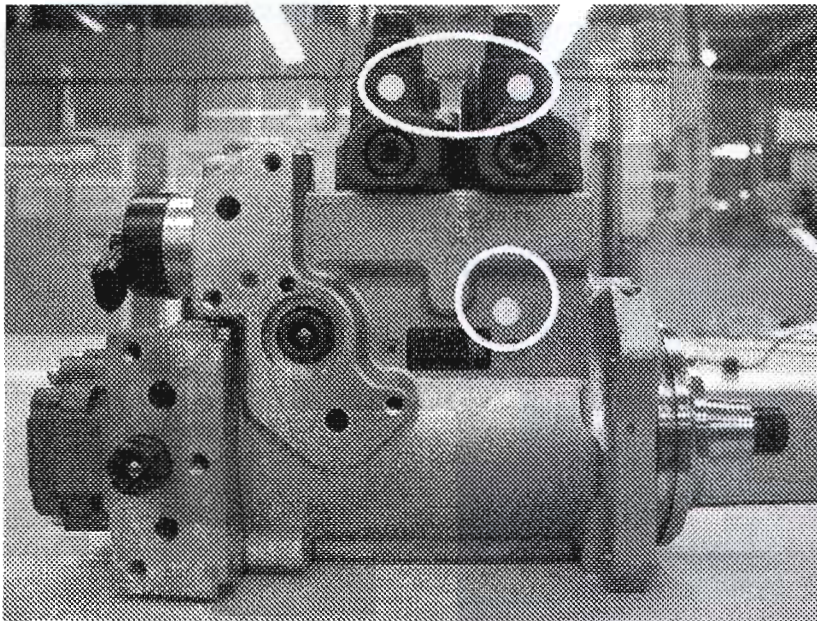

Figure 13 – Yellow Paint Pen Dot Location
17. Using the supplied yellow paint pen, place a dot on the side of each pumping element and on the side of the high pressure pump housing. See Figure 13.